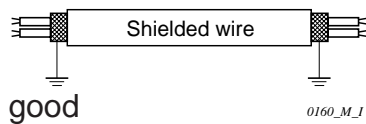

Fig. 2-1
1. Ground the shield on both sides (Fig. 2-1)